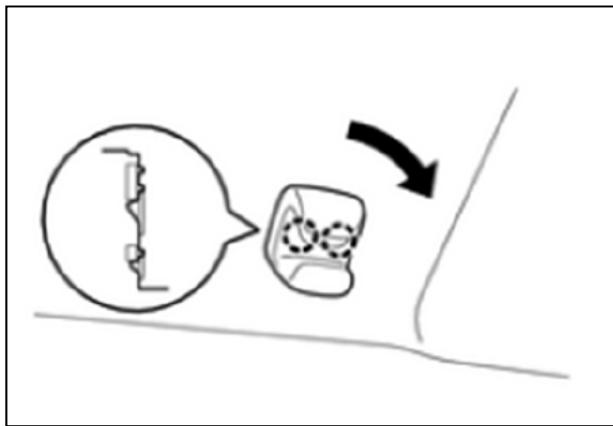

Figure 2
2. Turn the visor holder 45° clockwise to disengage the 2 claws as shown in the illustration. Remove the visor holder. See Figure 2.